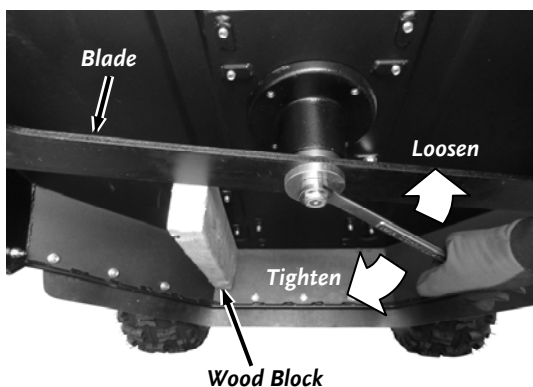
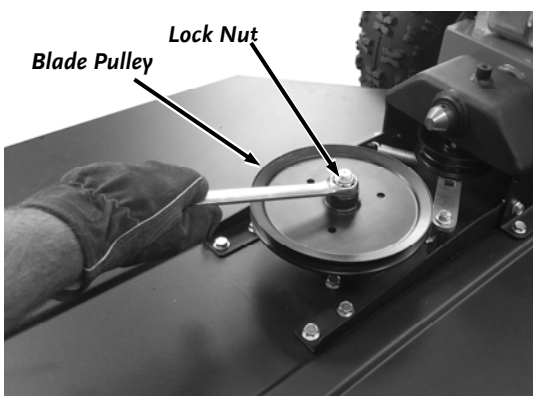

Figure 43
Figure 45
1. Block the Blade with a piece of wood between the Blade and the Skid on the side of the Deck (**Figure 43**).
3. Block the blade with a piece of wood (**Figure 43**) as you remove the Locknut using a 15/16" Wrench (**Figure 45**).